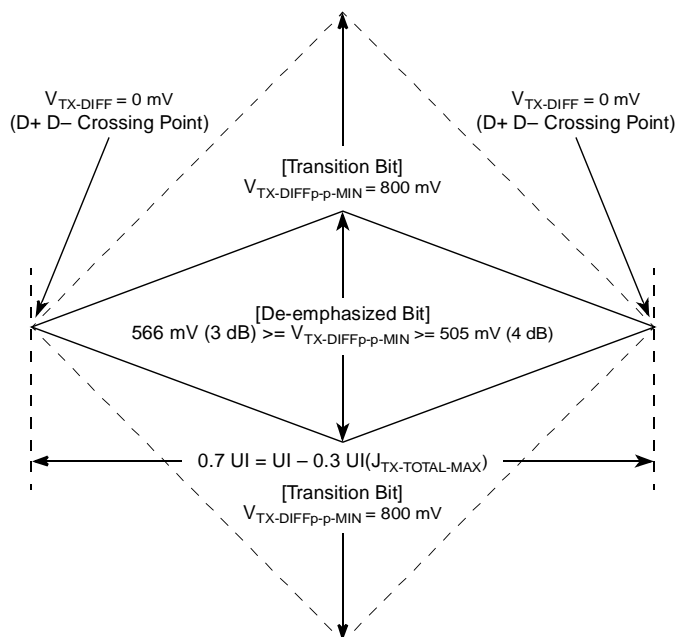
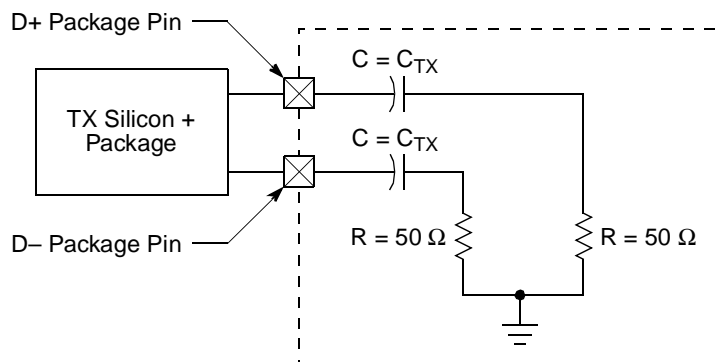

Figure 46. Minimum Transmitter Timing and Voltage Output Compliance Specifications
Figure 48. Compliance Test/Measurement Load
- 2 Specified at the measurement point into a timing and voltage compliance test load as shown in Figure 48 and measured over any 250 consecutive Tx UIs. (Also refer to the transmitter compliance eye diagram shown in Figure 46.)
- 4 The transmitter input impedance will result in a differential return loss greater than or equal to 12 dB and a common mode return loss greater than or equal to 6 dB over a frequency range of 50 MHz to 1.25 GHz. This input impedance requirement applies to all valid input levels. The reference impedance for return loss measurements is 50  $\Omega$  to ground for both the D+ and D– line (that is, as measured by a vector network analyzer with 50- $\Omega$  probes, see Figure 48). Note that the series capacitors,  $C_{TX}$ , is optional for the return loss measurement.
- 5 Measured between 20%–80% at transmitter package pins into a test load as shown in Figure 48 for both  $V_{TX-D+}$  and  $V_{TX-D-}$ .
The Tx eye diagram in Figure 46 is specified using the passive compliance/test measurement load (see Figure 48) in place of any real PCI Express interconnect + Rx component. There are two eye diagrams that must be met for the transmitter. Both diagrams must be aligned in time using the jitter median to locate the center of the eye diagram. The different eye diagrams differ in voltage depending on whether it is a
- 2 Specified at the measurement point and measured over any 250 consecutive UIs. The test load in Figure 48 should be used as the Rx device when taking measurements (also refer to the receiver compliance eye diagram shown in Figure 47). If the clocks to the Rx and Tx are not derived from the same reference clock, the Tx UI recovered from 3500 consecutive UI must be used as a reference for the eye diagram.
- 4 The receiver input impedance will result in a differential return loss greater than or equal to 10 dB with the D+ line biased to 300 mV and the D– line biased to –300 mV and a common mode return loss greater than or equal to 6 dB (no bias required) over a frequency range of 50 MHz to 1.25 GHz. This input impedance requirement applies to all valid input levels. The reference impedance for return loss measurements for is 50  $\Omega$  to ground for both the D+ and D– line (that is, as measured by a vector network analyzer with 50- $\Omega$  probes, see Figure 48). Note that the series capacitors,  $C_{TX}$ , is optional for the return loss measurement.
The Rx eye diagram in Figure 47 is specified using the passive compliance/test measurement load (see Figure 48) in place of any real PCI Express Rx component. In general, the minimum receiver eye diagram measured with the compliance/test measurement load (see Figure 48) is larger than the minimum receiver eye diagram measured over a range of systems at the input receiver of any real PCI Express component. The degraded eye diagram at the input receiver is due to traces internal to the package as well as silicon
The reference impedance for return loss measurements is 50. to ground for both the D+ and D- line (that is, as measured by a Vector Network Analyzer with 50. probes—see Figure 48). Note that the series capacitors,  $C_{PEACCTX}$ , are optional for the return loss measurement.
The AC timing and voltage parameters must be verified at the measurement point, as specified within 0.2 inches of the package pins, into a test/measurement load shown in Figure 48.